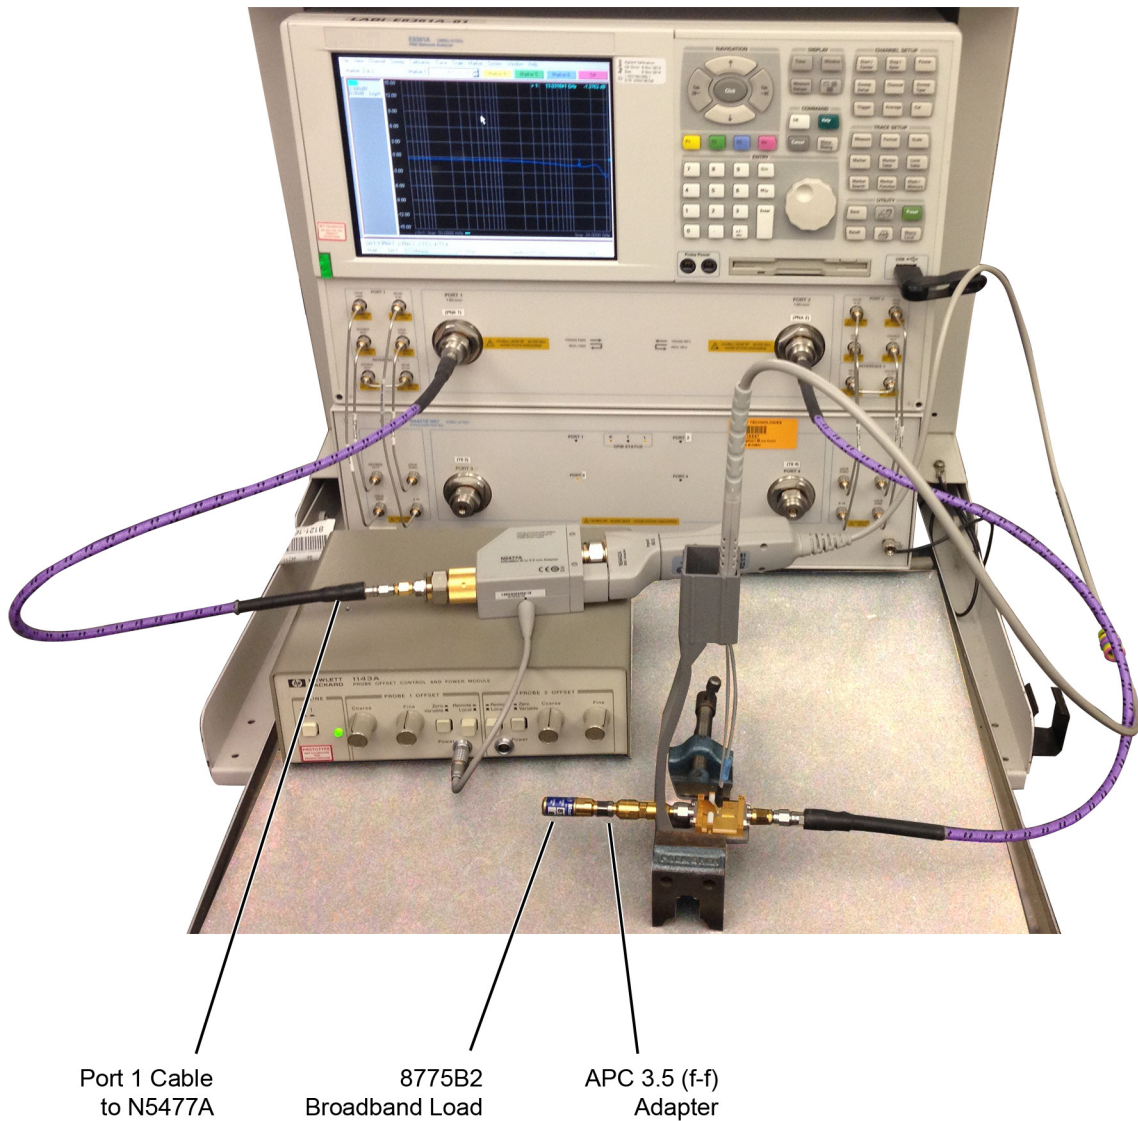

Figure 97 Test Setup to Measure V_{out} of Probe
- 12 As shown in **Figure 97** on page 124, move the Port 1 cable N5477A. Connect the 8775B2 broadband load as shown in the figure.